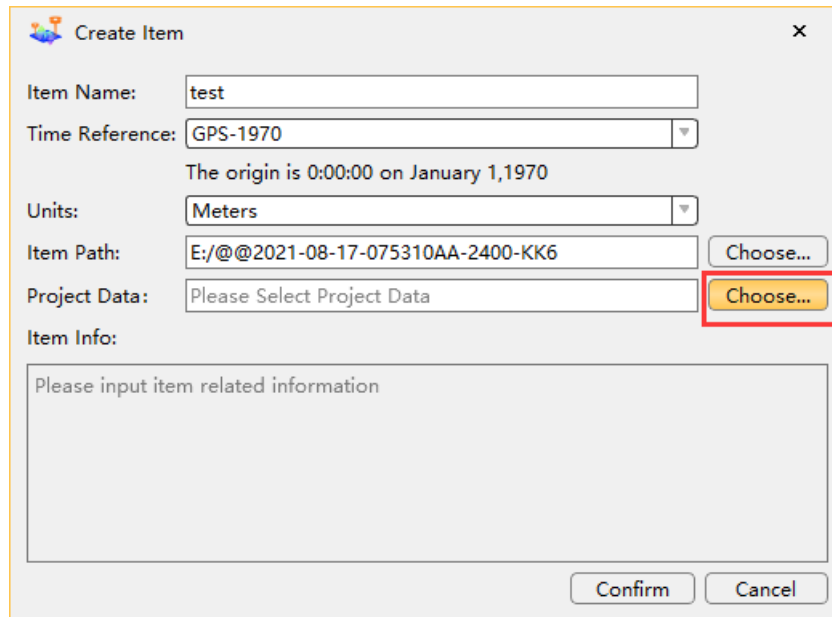

Figure 10
- Click Choose, Select Project Data as shown in figure 10